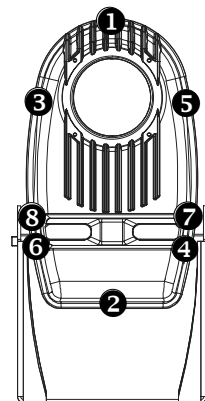

Figure 1-7 Screw tightening order
8. Tighten the remaining perimeter screws in the order indicated in Figure 1-7 equalizing the torque to ensure a weathertight seal.